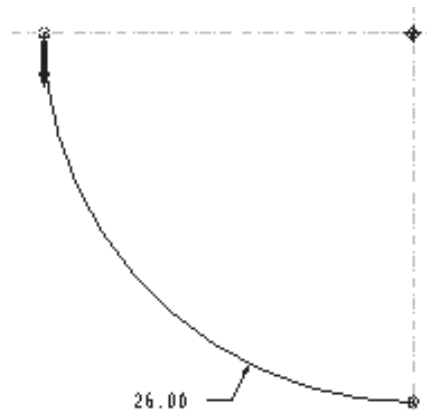

Figure 7-36 Dimension for the arc
1. Using the left mouse button double-click on the dimension and modify the radial dimension to 26 as shown in Figure 7-36. You will notice the sketch refits on the screen.